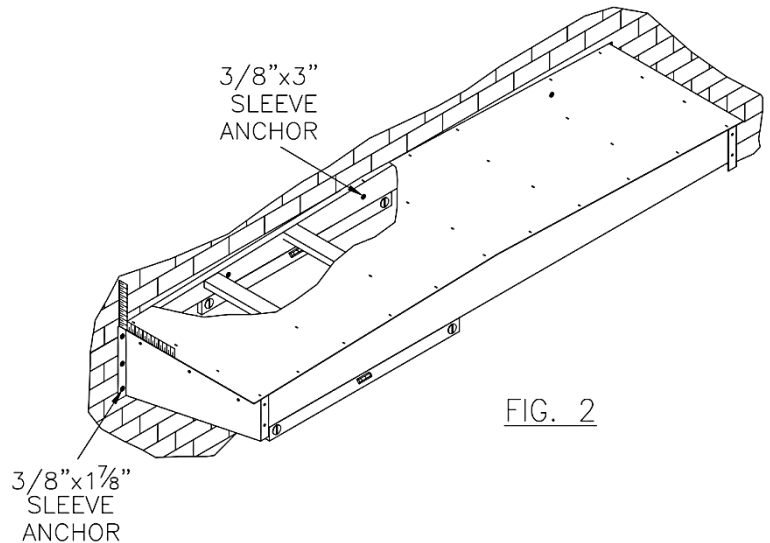

FIG. 2
- i. Place head frame on marks on wall (Fig. 2).